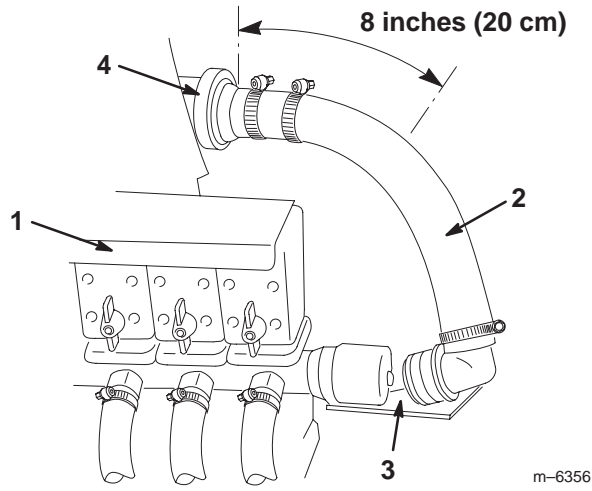

Figure 9
1. Remove the retainer securing the end of the boom supply hose connected to the tee located to the right of the boom supply valves and disconnect it (Fig. 9).
2. Cut the boom supply hose 8 inches (20 cm) to the right of the flow meter (if equipped) or 32 inches (81 cm) from the supply tee (located directly behind the boom valves) using a hacksaw (Fig. 9). Remove the hose clamp from the loose end and discard the hose and fitting.